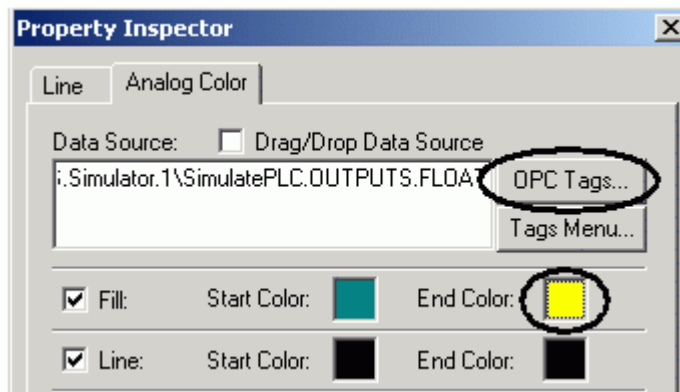

Figure 5.26. Analog Color Dynamic Property Inspector
4. The **Property Inspector** for the **Analog Color** dynamic will appear, as shown in **Figure 5.26**. Click the **OPC Tags** button and navigate to the OPC tag "ICONICS.Simulator.1\SimulatePLC.OUTPUTS.FLOAT." This is a tag that has already been created. It is important to link to this specific tag, since the various controls configured in this display to change the light bulb are already tied to this particular OPC tag.